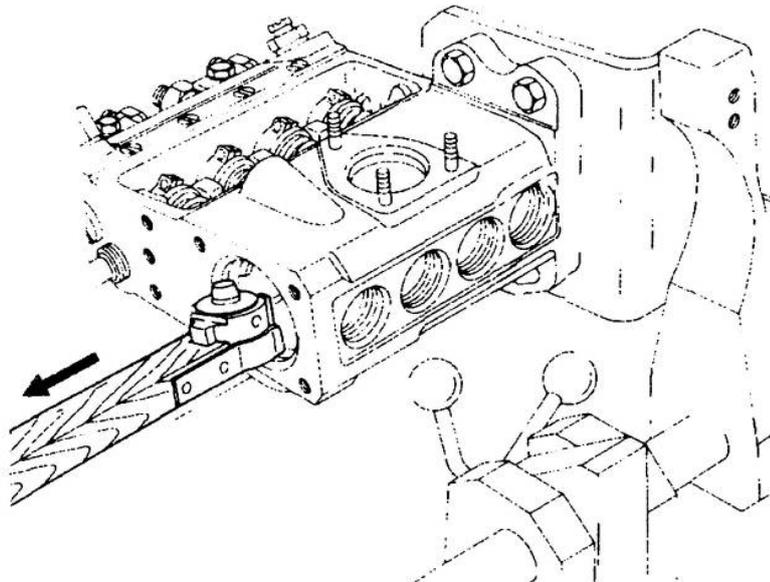

Figure 72 Removing the Tappet Assemblies
- u. Using special tool 157931-6120, remove the tappet assemblies from the injection pump through the camshaft bore (Figure 72).